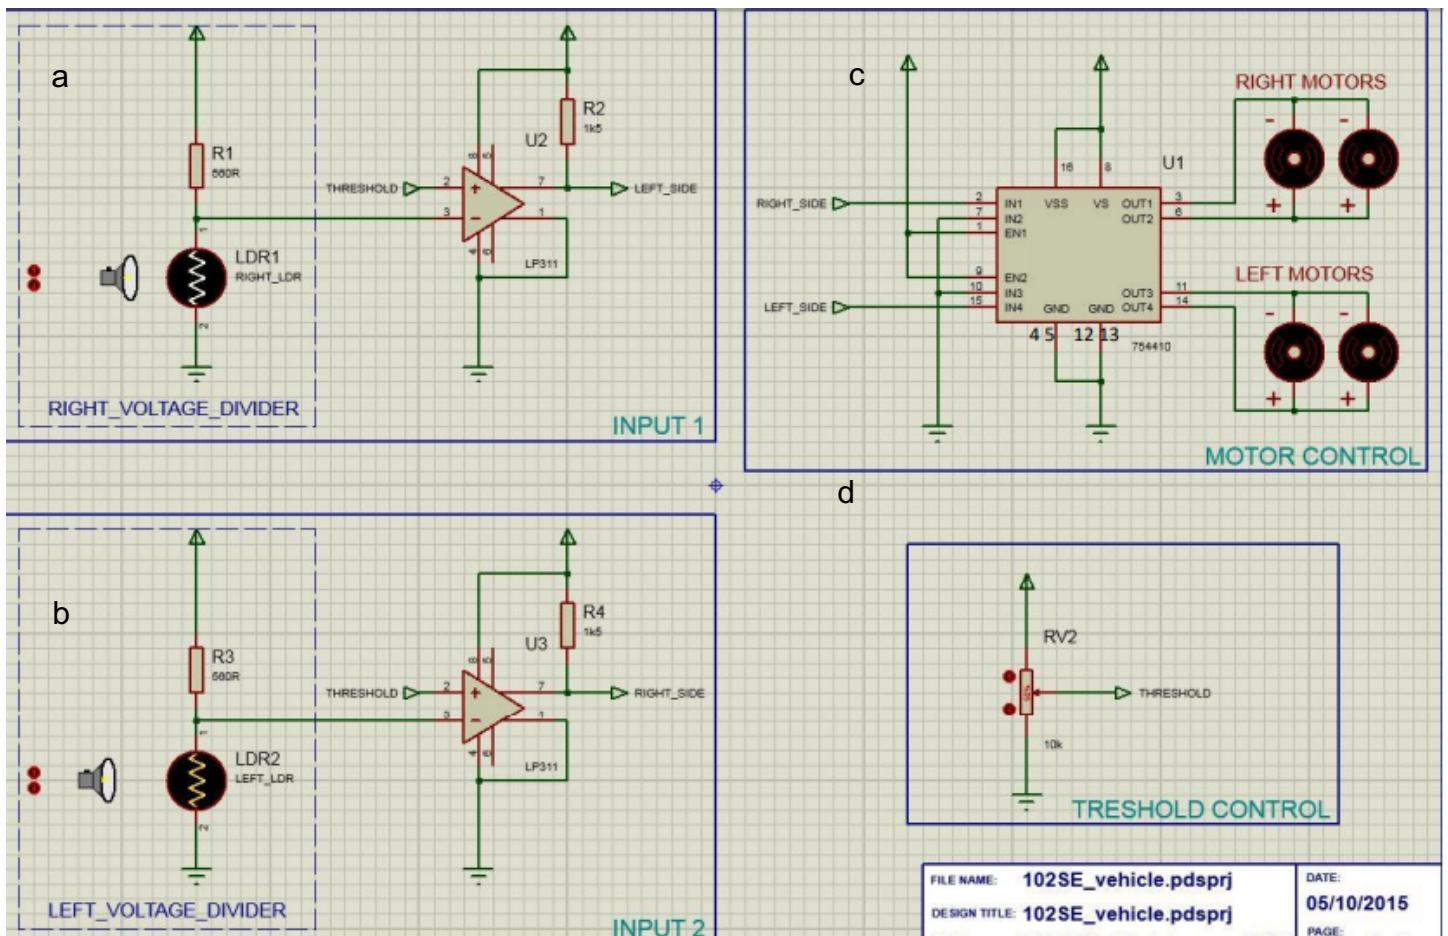

Figure 16.
- First, build the two voltage divider circuits for the left and right inputs as shown in Figure 16(a,b).
- Then build the two threshold circuits with potentiometer (figure 16-d). You need to build two of them.
- Connect the two inputs of LM311 to the output of the voltage divider and threshold circuits as shown in figure 16.
- Connect the out puts of LM311 to the motor driver IC as shown in figure 16-c.